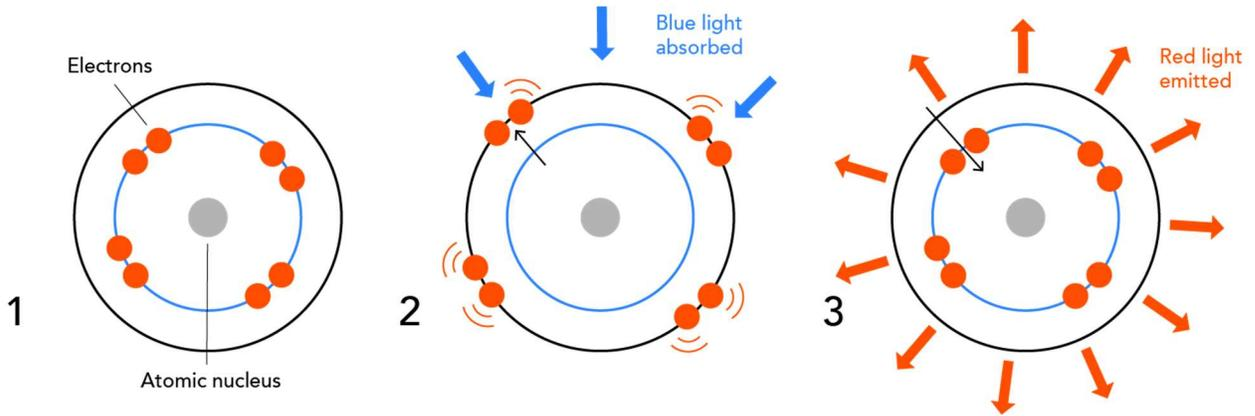

Figure 2. Phosphor Atom Excited with Blue Light, Emits Red Light as it Relaxes
In phosphorescent thermometry, a phosphor material is coated on an optical fiber or on an object in line of sight of the optical signal. It is then excited using a light pulse. As seen in *Figure 2*, the phosphor begins in its ground state (1). It is then stimulated using photons that excite electrons to a higher energy level in the atom (2). Then, the phosphor goes through phosphorescence, a type of luminescence similar to fluorescence. The electrons relax and return to their previous state, emitting low intensity light (3). In this case, blue light is used as stimulation and red light is emitted.